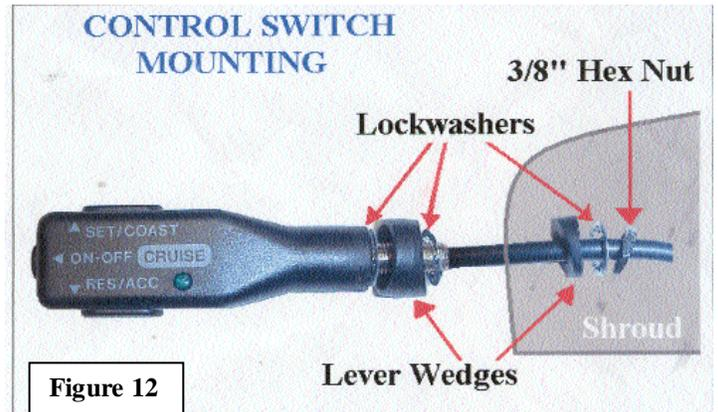

Figure 12
1. Use the **lever wedges** on the **Control Switch** at an angle template to drill a 3/8" or 9.5mm hole in the lower shroud of the steering column cover. Position lock-washers as shown. **Figure 12**